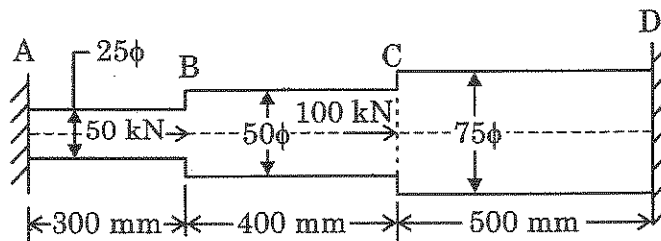

Fig. Q. 11(a)
11. (a) A circular steel bar ABCD, rigidly fixed at A and D is subjected to axial loads of 50 kN and 100 kN at B and C as shown in Fig. Q.11(a). Find the loads shared by each part of the bar and displacements of the points B and C. Take E for steel as 200 GPa.